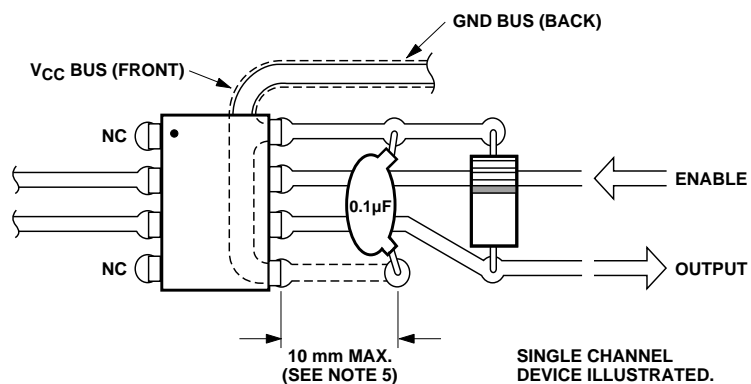

Figure 17. Recommended Printed Circuit Board Layout.
- Bypassing of the power supply line is required, with a $0.1 \mu\text{F}$ ceramic disc capacitor adjacent to each optocoupler as illustrated in Figure 17. Total lead length between both ends of the capacitor and the isolator pins should not exceed 20 mm.